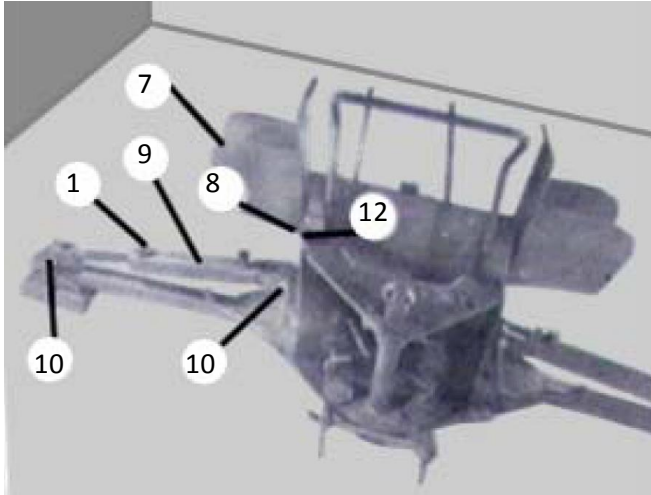

Fig. 6
(7) Attach base end of (1) each stabilizer cylinder (Item 9) to left side of main frame cylinder anchor lug, located in the center and just above the base end of the stabilizer arm, using one each cylinder pin (Item 10) and two each 3/16" x 1 1/2" cotter pins (Item 11) as shown in Fig. 6.
(8) Attach the rod end of the stabilizer cylinder to the anchor lug, located in the center of the stabilizer arm near the stabilizer foot, using one each cylinder pin (Item 10) and two each 3/16" x 1 1/2" cotter pins (Item 11) as shown in Fig. 6.
(9) Attach the right side stabilizer cylinder by repeating steps 7 and 8.
(10) Attach the left stabilizer guard (Item 7) over the mounting receptacle, located on the upper portion of the main frame side plate, aligning the two holes in the stabilizer guard with the mounting receptacle and inserting the guard pin (Item 8) through the guard and receptacle. Secure the pin with two each 1/8" x 1" cotter pins (Item 12) as shown in Fig. 6.
(11) Attach the right stabilizer guard by repeating step 10.
(12) Install one each of the SAE 6 O-Ring to JIC 6 Flare Straight adapter fittings (Item 1 in box parts list, page 5) in both ports of the right and left stabilizer cylinders (four (4) required) as shown in Fig. 6.